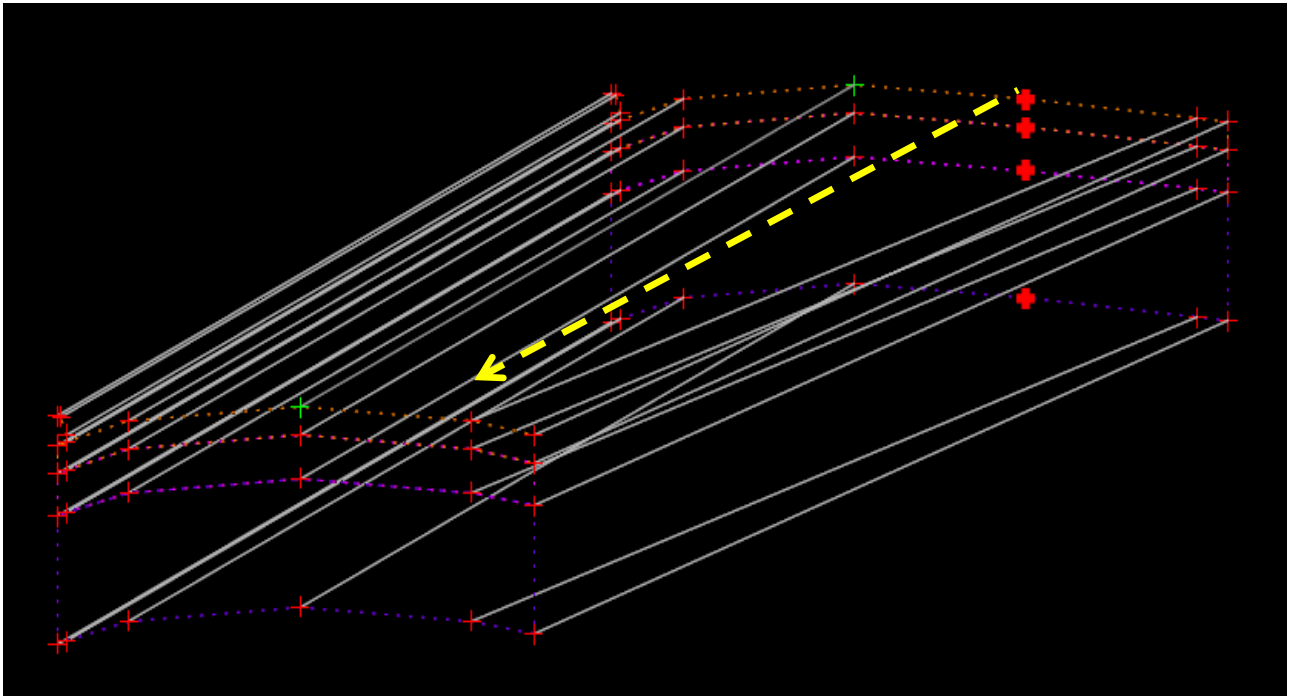

Figure 7-3 InRoads Edit Transition dialog box
- A. In the plan view of the Roadway Designer **Right Click** over the yellow highlight and select the **Edit** command. This will initiate the **Edit Transition** dialog box. This dialog box shows a window with an outline of the two templates that are transitioning. In the example shown in Figure 7-3, CT_RDWY2 travelway points do not exist in CT_RDWY1 travelway. Right click over points in this dialog to move the view angle. This action may be required to view all the points that do not match up. The bolded (+) indicates orphaned points (unmatched points).